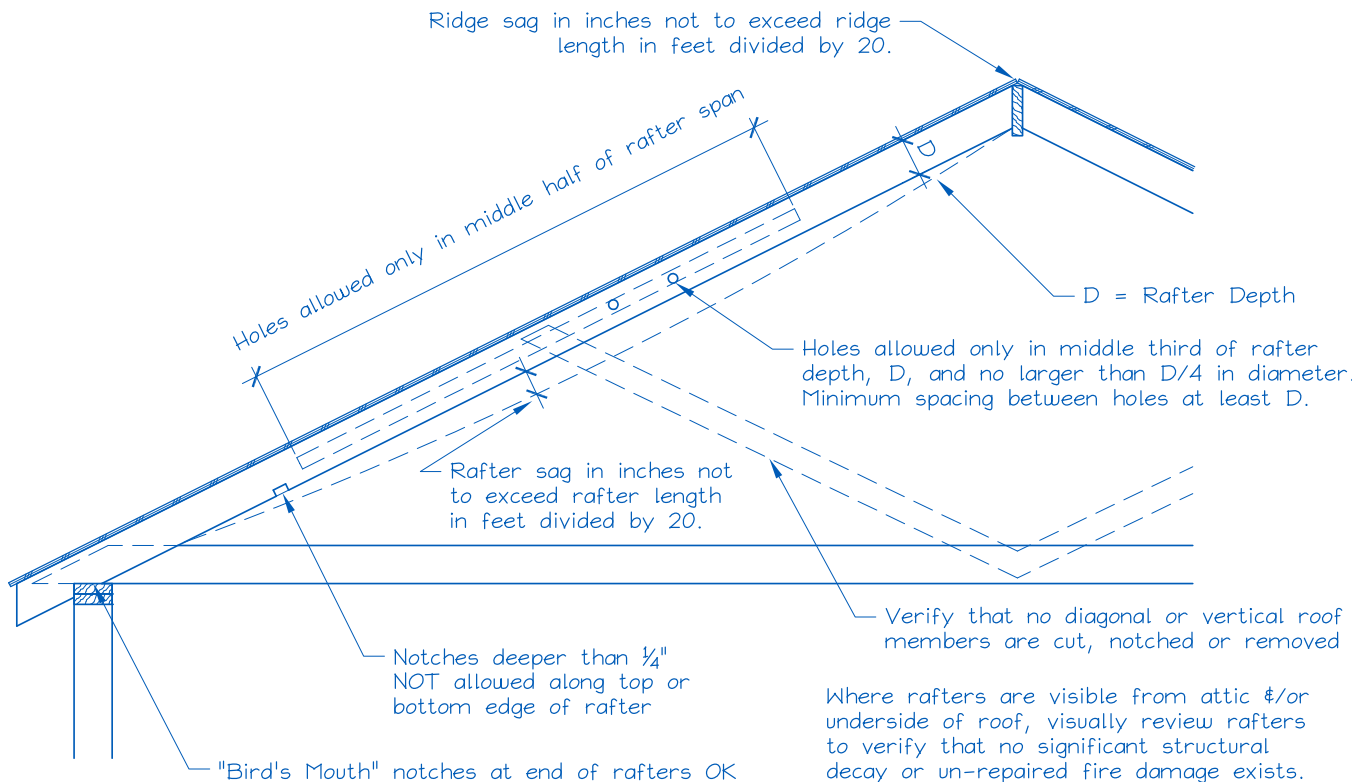

Figure 2. Sample Solar Panel Array and Anchor Layout Diagram (Roof Plan).
E. Is a roof plan of the module and anchor layout attached? (see Figure 2)
- 1) Proposed anchor horizontal spacing (see Figure 2): _____' - _____"ft-in
1. Anchors are also known as “stand-offs,” “feet,” “mounts” or “points of attachment.” Horizontal anchor spacing is also known as “cross-slope” or “east-west” anchor spacing (see Figure 2).